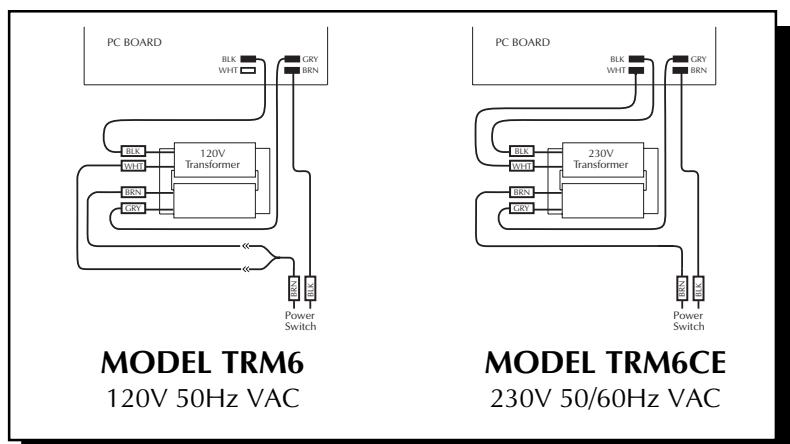

**FIG. 8**
5. Disconnect PCB mounted transformer primary wires (**FIG. 8**)
6. Disconnect PCB mounted transformer secondary wires (**FIG. 8**)
7. Disconnect PCB mounted power switch wires (**FIG. 8**)